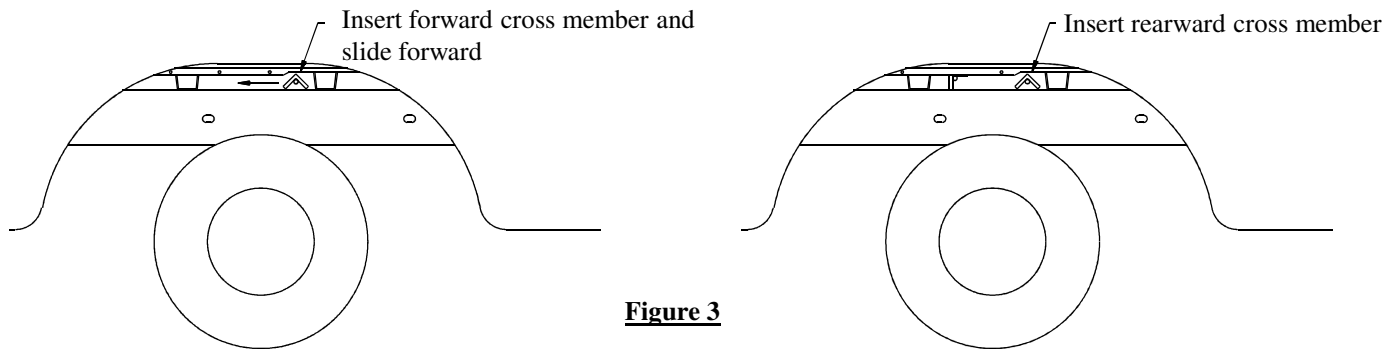

Figure 3
2. Slide the forward and rearward cross members between the frame rail and the bed of the vehicle as shown in Figure 3. The forward cross member has (2) additional holes centered between the long slots.